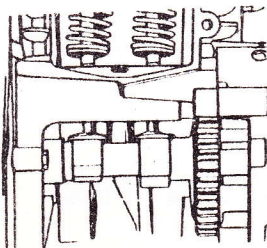
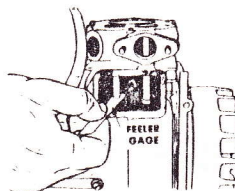

Fig. 9. Proper Position of Camshaft for Checking Valve Clearance
Fig. 10. Checking Valve Clearance
11. Valve clearance should then be set (Fig. 9). The clearances should be between .009 and .012 on all engines except the 300 series which are set at between .006 and .009. After clearance is set, a 45° bevel should be ground on the outer edge of the valve stem (Fig. 10).